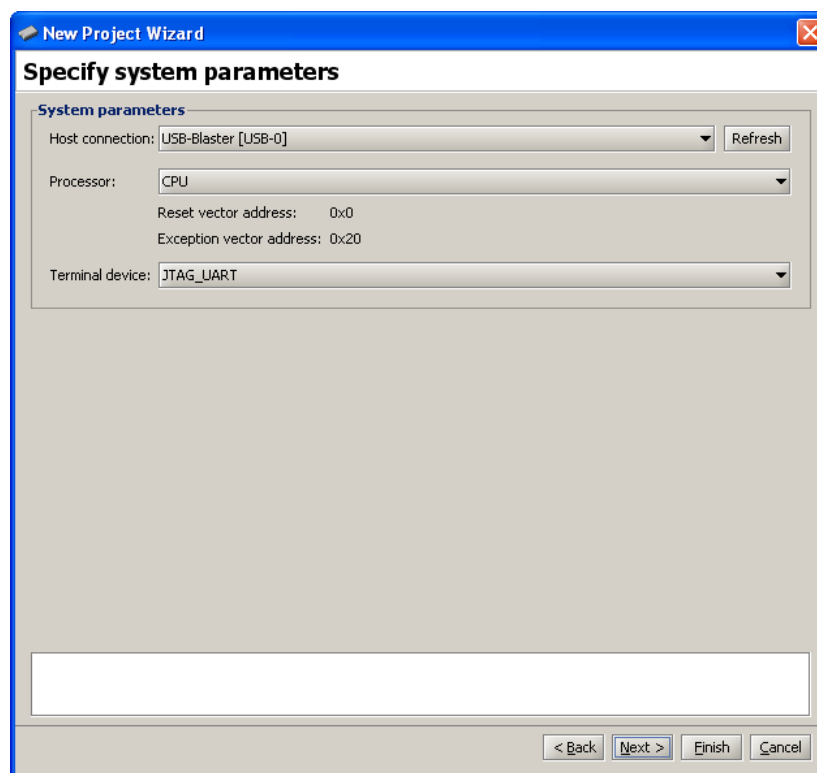

Figure 10. Specifying system settings.
4. Click **Next** to advance to the window in Figure 10. This dialog is used to specify the connection to the FPGA board, the Nios II processor that should be used (some hardware systems may contain multiple processors), and the terminal device. The **Host connection** drop-down list contains the physical connection links (such as cables) that exist between the host computer and any FPGA boards connected to it. The Nios II processors available in the system are found in the **Processor** drop-down list, and all terminal devices connected to the selected processor are displayed in the **Terminal device** drop-down list. We discuss terminal devices in section 6.
For this tutorial, accept the default values that are displayed in Figure 10.